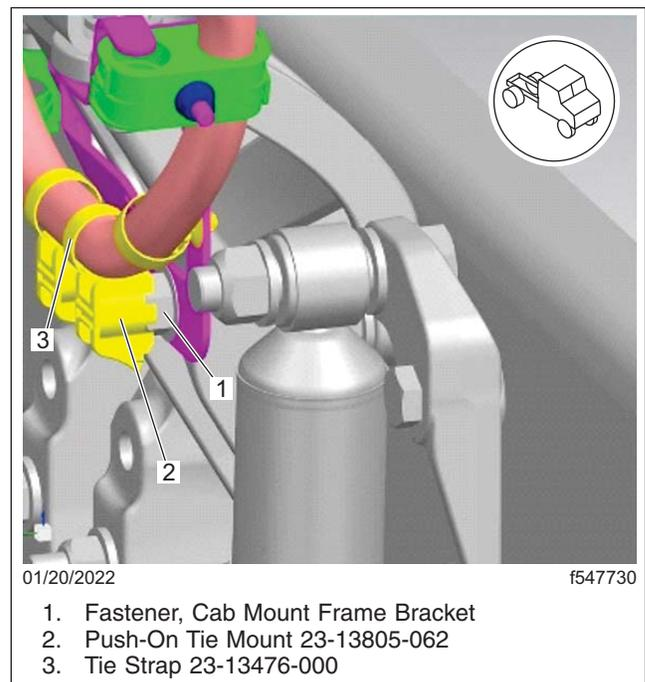

Fig. 27, Copper Cable Secured
- 10.2 Secure the new copper positive 4/0 cable to the push-on tie mount using tie straps (23-13476-000). See Fig. 27.